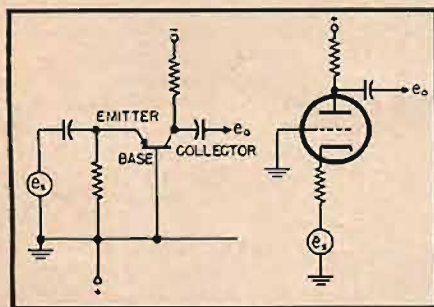

Fig. 1. Grounded-base circuit and its vacuum-tube equivalent.
**Grounded-Base.** Figure 1 presents the first class. Electronically it is similar to a grounded-grid vacuum-tube amplifier. Input impedances of as high as 1,000 ohms and output impedances of as high as 20,000 ohms are possible. These are comparatively low; it is necessary to use high-value input capacitors and matching transformers if transistors are employed in cascade. Gains per stage as high as 37 db are possible, with matched impedances. There is no 180-deg. phase reversal as in a tube, and two batteries are required, or a tapped one. The principal problem with grounded-base circuits is one of stability, especially if transistors with  $\alpha$ , the current amplification factor, greater than 1 are employed. Junction transistors are superior to the point-contact type in this respect.